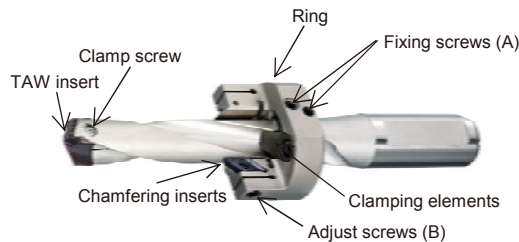

Fig.1
5. Tighten two fixing screw(A) to contact with drill body. (Fig.1)